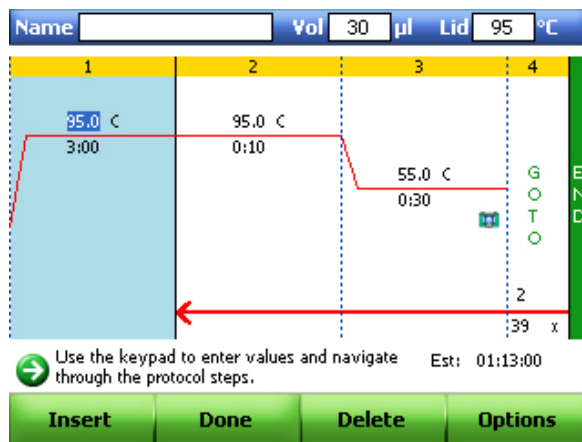

Figure 33. Default real-time PCR protocol.
1. Select **New Protocol (F4)** in the start up screen to begin (Figure 33).
3. (Optional) To insert a new step, select the **Insert (F1)** button. To delete a step, select the **Delete (F3)** button (Figure 33).
- (Optional) To change step options, select the **Options** (F4) button (Figure 33). In the **Step Options** window, select a parameter to change, including the temperature and time of the step, or add/remove a plate read to the step (Figure 34).
- (Optional) To change the default sample volume, select the sample volume box (**Vol**) (Figure 33 on page 45). Use the alphanumeric keys to enter a new sample volume in microliters. The sample volume you enter determines the temperature control mode that is used during a run.
- (Optional) To change the default lid temperature, select the lid temperature box (**Lid**) by pressing the arrow keys (Figure 33 on page 45). Use the alphanumeric keys to enter a new temperature. The default lid temperatures for the CFX96 modules is 105°C.
- To begin the run, click **Done** (F2) in the Protocol window (Figure 33 on page 45).